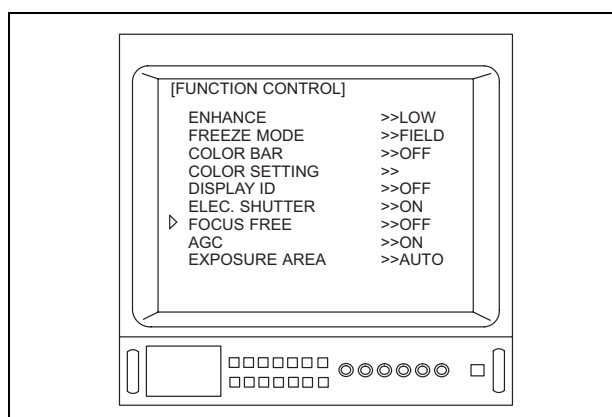

Figure 5.37
5. Depress the menu switches “” or “”, or the “” key on the keyboard to move the arrow “” to “FOCUS FREE” (see Figure 5.37).
- When the OTV-S7V is connected to the ENF-V, CYF-V/VA or HYF-V, “ELEC. SHUTTER” and “EXPOSURE AREA” shown in Figures 5.37 and/or 5.38 are not displayed.
- When the OTV-S7V is connected to the LTF-V3 or A500**A series, “EXPOSURE AREA” shown in Figures 5.37 and/or 5.38 is not displayed.
- When the OTV-S7V is connected to a camera head without the focus free function, or to a videoscope, “FOCUS FREE” shown in Figures 5.37 and/or 5.38 is not displayed.
- Depending upon the OTV-S7V's settings, the menus shown in Figures 5.37 and/or 5.38 may appear different from those displayed on the video monitor.